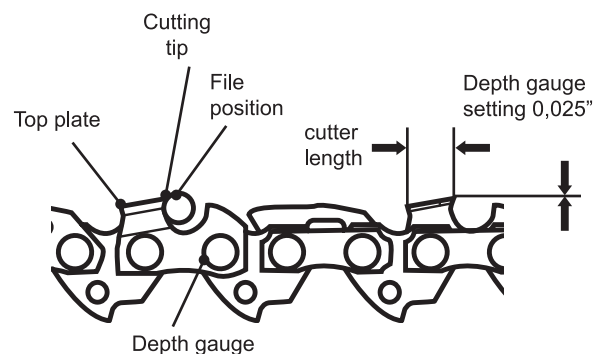

Fig. 43
- Use a depth gauge measuring instrument to check the height of the depth gauge. Depth gauge measuring jigs are available from most reputable tool merchants (Fig. 43).